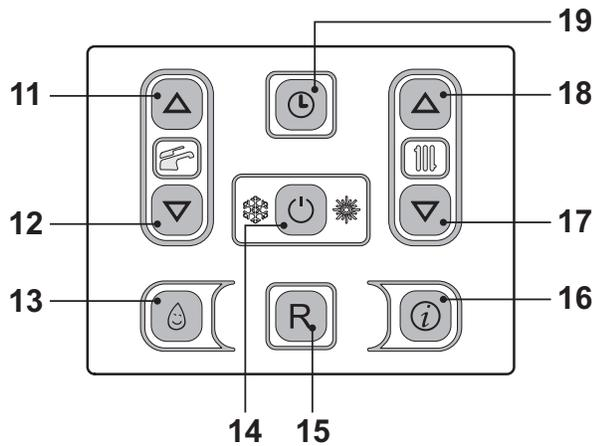
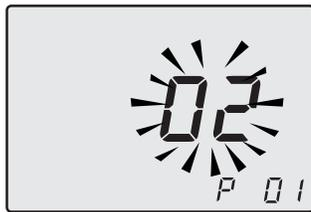

Fig. 7.17
Fig. 7.18
- Enter in "programming mode" by pressing keys 14 - 17 - 18 (Fig. 7.17) for 10 seconds at the same time until the letters **P01** are displayed on the LCD display, indicating that "parameter 01, has been activated (Fig. 7.18).
- By pressing key 14 (Fig. 7.17) confirmation of the inserted value is obtained.
- Press keys 17 or 18 (Fig. 7.17) to exit without changing the value Fig. 7.19)
However, if the ambient temperature is not comfortable, the flow temperature of the heating plant can be increased or reduced by $\pm 15^\circ\text{C}$ by acting on keys 17 (reduce) and 18 (increase) (Fig. 7.17).